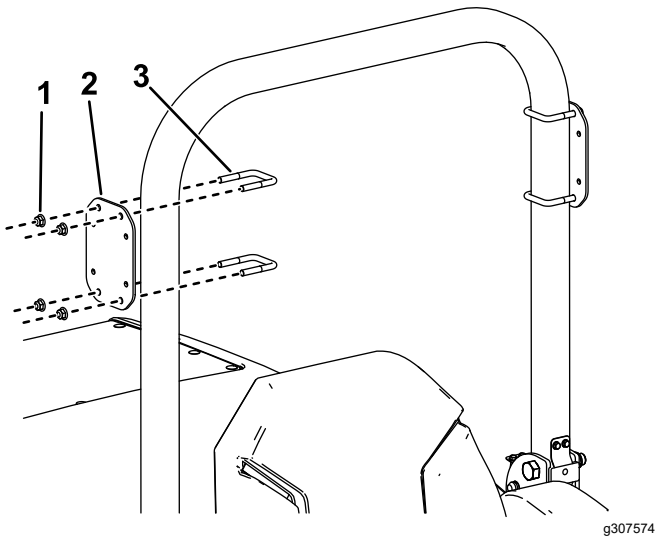

Figure 1
1. Install a light mount to each side of the machine with 2 U-bolts and 4 locknuts (3/8 inch) as shown in Figure 1.